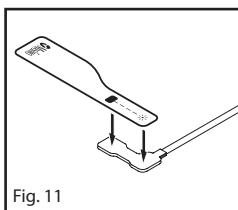

Fig. 11
3. Position the replacement tape over the sensor, aligning the emitter component with the sensor cable. Refer to **Fig. 11**.